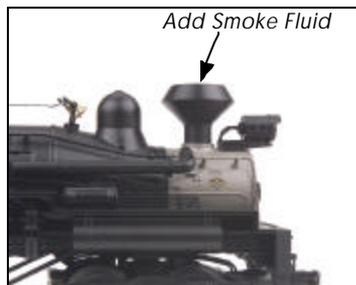

Figure 4 - Add Smoke Fluid
1. You should prime the operating smoke unit with smoke fluid before operating. Add 15-20 drops of smoke fluid through the smokestack, then gently blow into the stack to eliminate any air bubbles in the fluid. (See Fig. 4 on page 11)
■ When preparing to run this engine, add 15-20 drops of smoke fluid through the smokestack. (see figure 4) We recommend M.T.H. ProtoSmoke, Seuth, LGB, or LVTS fluids (a small pipette of ProtoSmoke fluid is included). Do not over fill the unit or the fluid may leak out and coat the interior engine components.